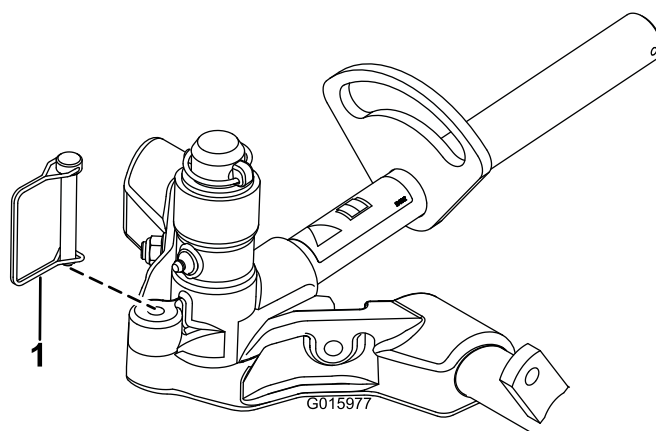

Figure 12
11. To lock (fix) the steering on the cutting units, secure the pivot yoke to the carrier frame with the snapper pin (Figure 12).